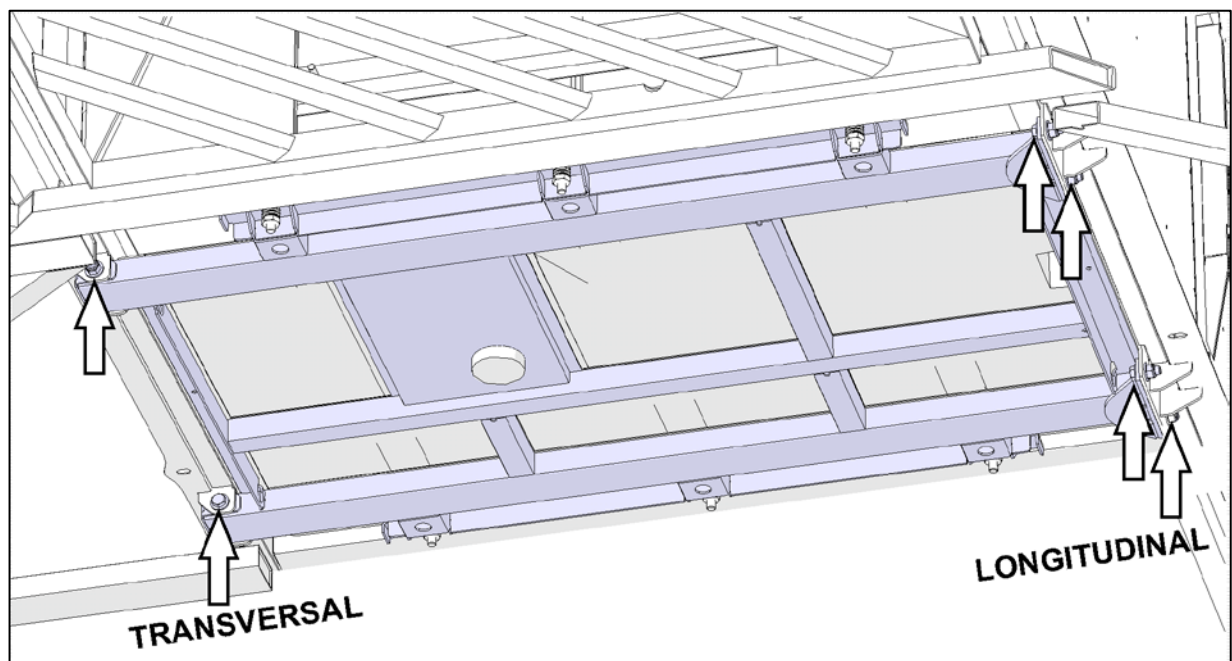

Figure 3 : Location of Mounting Points
3. Locate the mounting points of the fuel tank cradle under the vehicle frame (Figure 3)
4. Carefully inspect fuel cradle mounting bolts, 6 locations.(Figure 3)